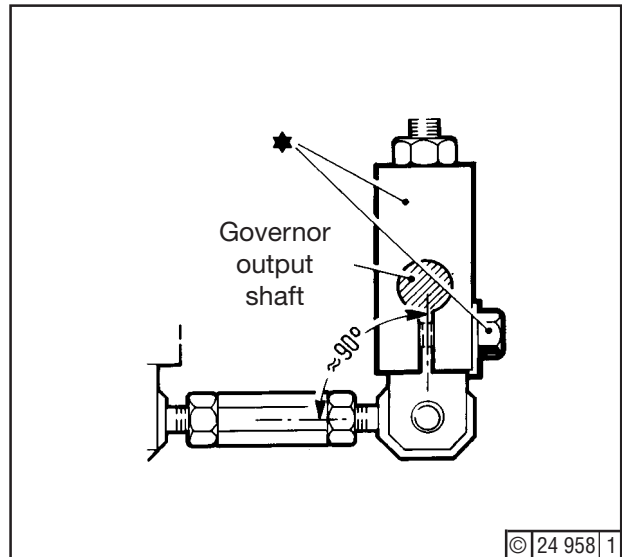
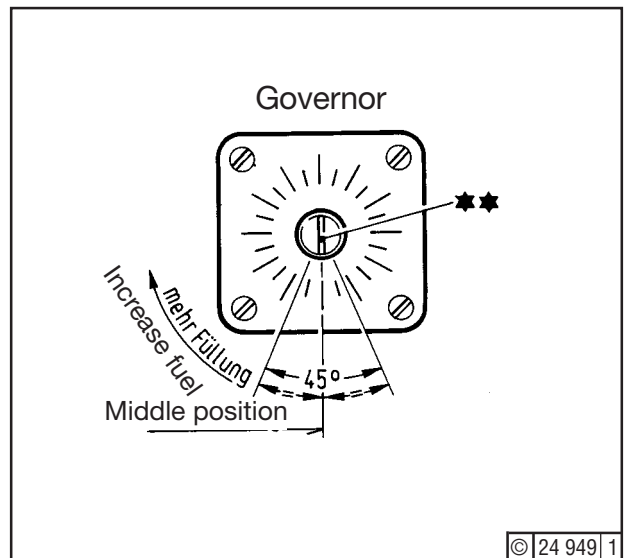

Fig. 12
Fig. 13
- Secure lever C11 (*) (Fig. 12) to actuator so that the lever is roughly vertical when the actuator shaft (Fig. 13) is in mid-position. (Shaft rotation is max. 45°.)